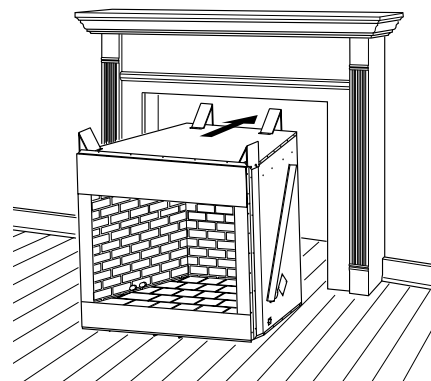

Figure 9 - Inserting Firebox Into Cabinet Mantel (Mantel May Vary From Illustration)
4. Carefully insert firebox into cabinet mantel. Be careful not to scratch firebox, cabinet mantel, flooring, etc. when installing (see Figure 9).